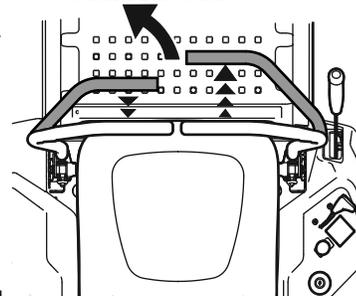

Figure 21
1. To turn to the left, move the left drive control lever rearward of the right drive control lever. See Figure 21.